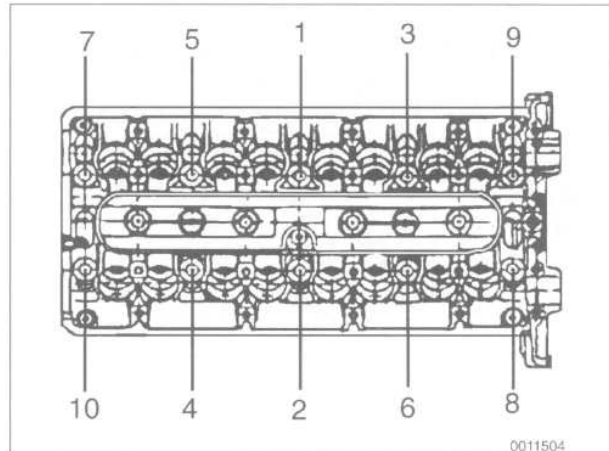

Fig. 47. Cylinder head bolt tightening sequence for M60 engine.
5. Tighten cylinder head bolts in stages, alternately and diagonally in the sequence shown. See Fig. 47.